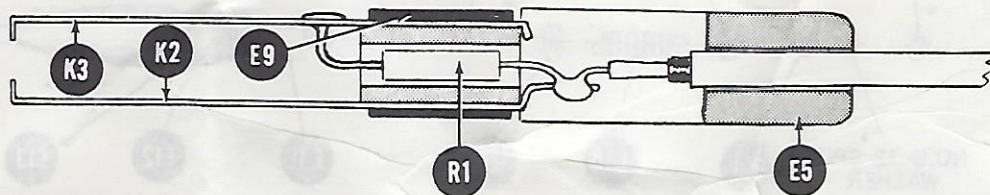
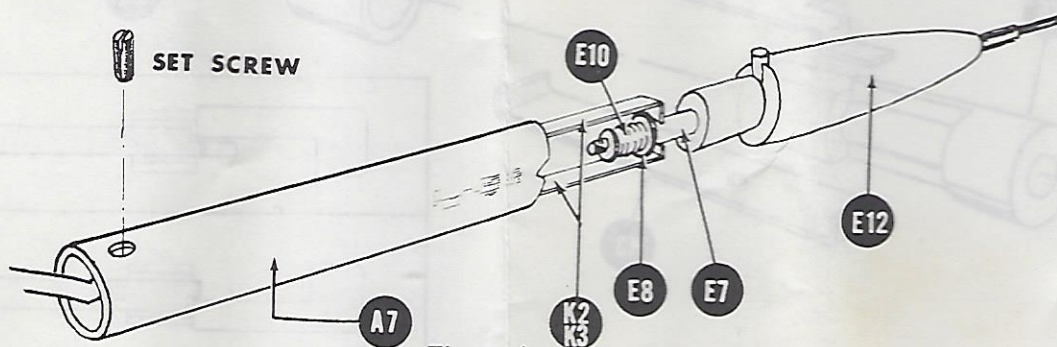

Figure 3
Figure 4
A resistor must usually be added to the UNI-PROBE in order to adapt it for use with most VTVMs. The value of this resistor is discussed in the following section. The mechanical procedure for adding this resistor involves removing the probe shell, as shown in Figure 4. If you bought the probe in wired form, loosen the set screw until the probe shell can be removed. Remove the assembly consisting of K2, K3, E9 and E5, as shown in Figure 3. Solder the resistor R1 to the probe, as shown in the figure. USE ONLY ROSIN CORE SOLDER. Replace the assembly as described in step 8 of the CONSTRUCTION PROCEDURE.
6. () Figure 3. Position the contact holder assembly just completed so that the free ends of contacts K2 and K3 are at the left with K3 (small hole) on top. Position the body of the isolation resistor R1 (previously removed from the old DC test lead) as shown, and pass one lead through the small hole in K3. Then trim off the excess lead and solder the connection between R1 and K3. Connect the other lead of R1 to the extension of the bottom contact K2 by first shaping the lead to lay flat against the K2 extension and then bending it back underneath. Close the U-shaped bend in the lead (with pliers) to grip the K2 extension firmly, then trim off the lead. This connection will be soldered in the next step.
7. () Figure 3. At one end of the coaxial cable strip away 1/2" of outside insulation and outer metal braid and 1/4" of inner insulation exposing the inner conductor. Insert the coaxial cable end, so prepared, into E5 as shown, and solder the inner conductor to the extension of contact K2, to which one lead of R1 was previously connected.
9. () Figure 4. Slip the free end of the coaxial cable into the notched end of the probe body A7. Move the probe body down the cable over the contact holder assembly until only the ends of contacts K2 and K3 protrude from it, as shown. Push the fiber washer E8 away from the blunt end of the nosepiece, simultaneously compressing spring E10, and hold E8 in this position with one hand. Fold the palm of the other hand around the probe body with the thumb and forefinger of this hand in a position to press the ends of K2 and K3 together. Now align the two sections of the probe as shown in Figure 4, the jaws formed by the ends of contacts K2 and K3 pressed closed on fiber tube E7, between E8 and the blunt end of the nosepiece. Release fiber washer E8 (and the spring) to pin the closed jaws formed by contacts K2 and K3 against the blunt end of the nosepiece but continue to press the jaws closed or one or both of the contacts will slip out. Now use the hand that has just been freed to move the probe body down the contacts to the jaw formed by the ends, releasing your pressure on the jaws only when the end of the probe body is sufficiently close to the jaws to ensure that the contacts will not spring free. Then move the probe body down on the nosepiece until either one of the notches engages the red pin. Next, grasp the probe body in one hand and close the 3rd, 4th and 5th fingers of the other hand about the coaxial cable at a point about 2" from the end of the probe body. Pull on the cable until the emerging end of the black fiber contact holder E5 can be gripped by thumb and forefinger. Maintaining your grip on the cable, rotate E5 until the No. 8 threaded hole is directly under the No. 8 hole in the probe body, then insert the No. 8-32 x 1/4 set screw. Turn the screw until its head is just below the surface of the probe body.